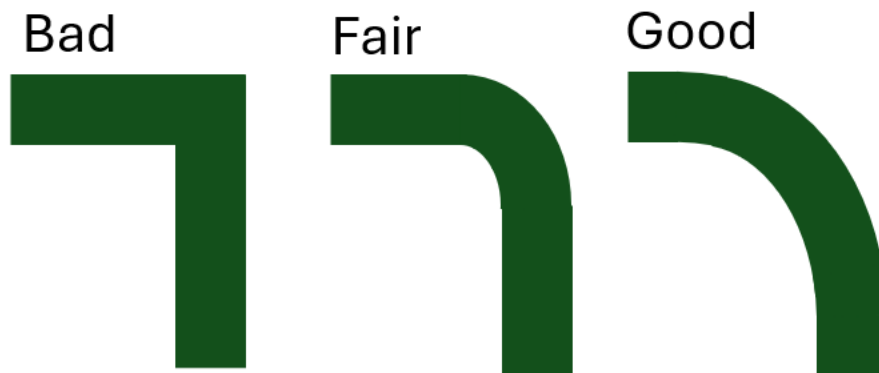

Figure 31. Example of RF trace routing
- 7. The RF bend trace routing should be smooth with a large radius rather than 90 degrees with a sharp edge, as shown in Figure 31.